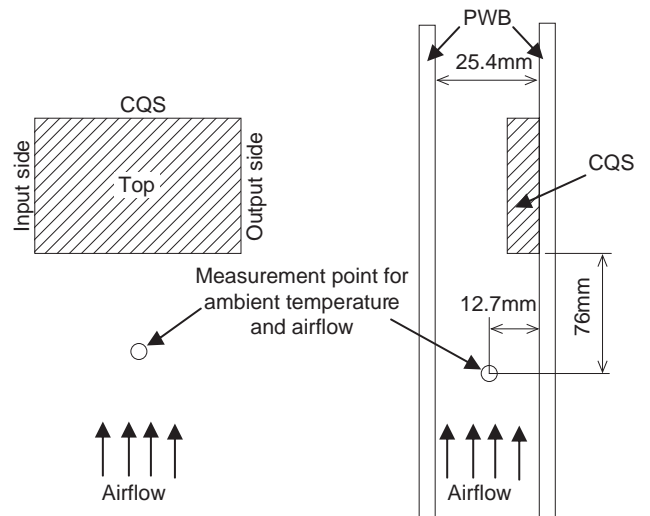

Fig.8.21 Measuring method
- Show the thermal curve with measuring as shown in Fig.8.21.